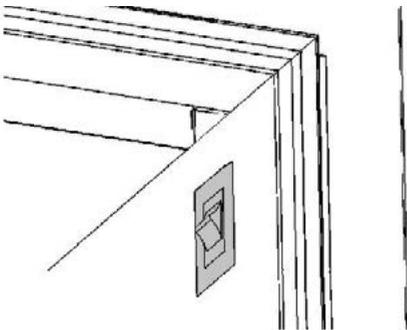

Fig. 4
- The light inside the beverage chiller can be turned On and Off using the light switch found on the right-hand side internal wall of the chiller. Fig. 4